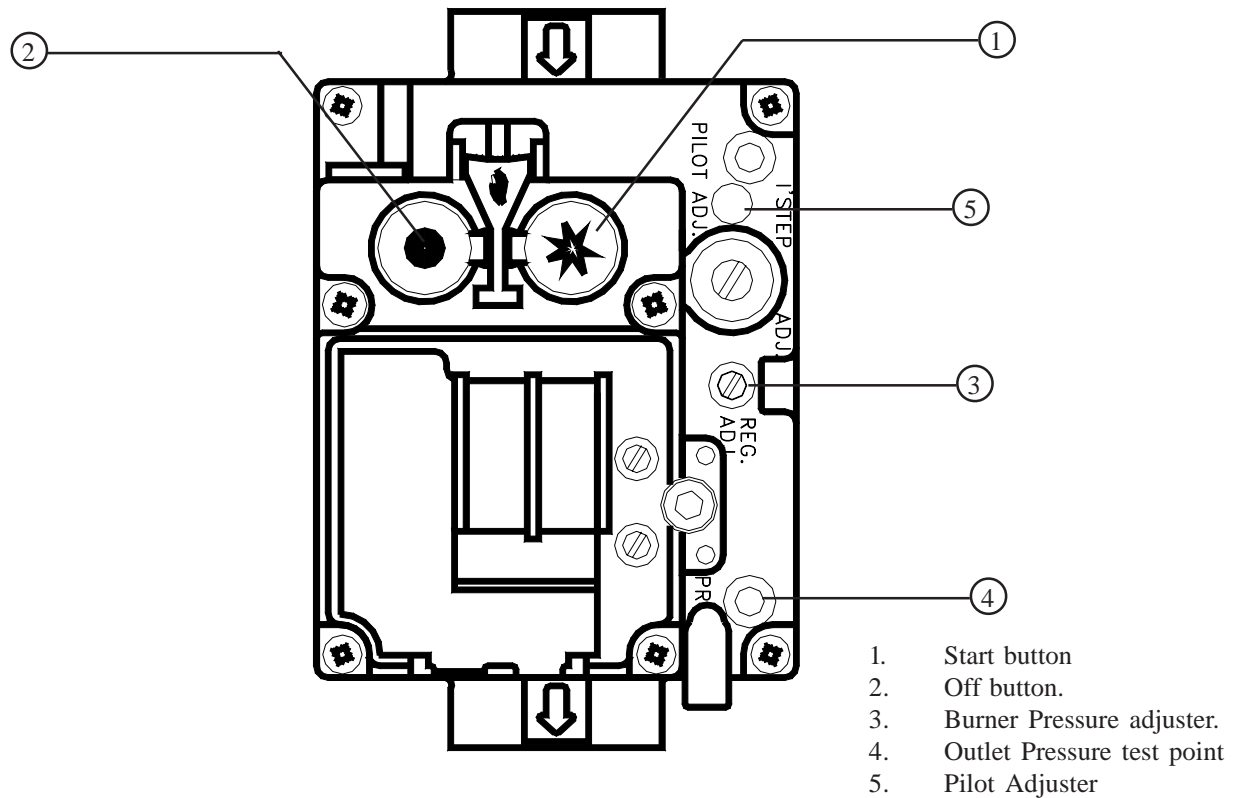

Fig. 4
- 6.4.2 On the Multifunctional Control, remove the Outlet Pressure test point cover, and a fit pressure test gauge (refer fig. 4).
- 6.4.5 Referring to Fig. 4, press and hold the OPERATING CONTROL, and whilst observing the Pilot Burner, repeatedly press the Piezo igniter button until the Pilot burner ignites.
- 6.5.1 Referring to Table 5 and Fig. 4 below, ensure that the pressure test gauge indicates the correct burner pressure, resetting if required as follows: